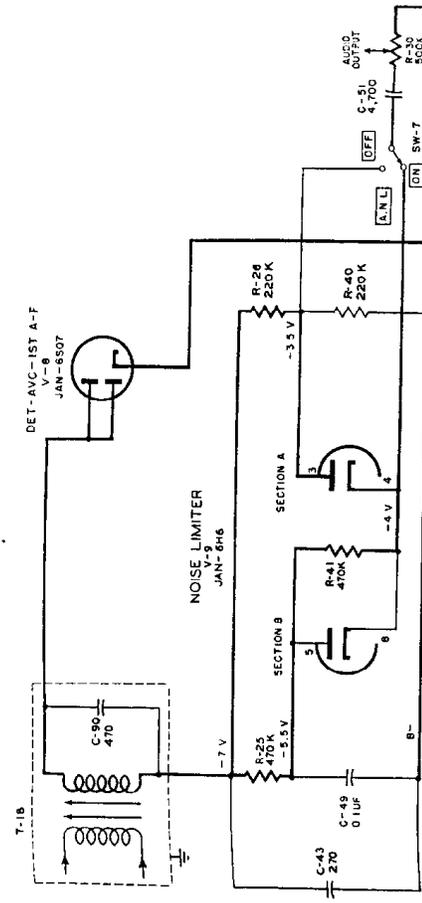

Figure 25. Noise limiter, simplified circuit diagram for preliminary explanation.
56. Noise Limiter (figs. 25 and 26)
a. GENERAL. The noise limiter (V-9) is of the series type and is designed to suppress any pulse type of noise interference which is picked up by the antenna and amplified through the radio receiver up to the detector. A.N.L. OFF-ON switch SW-7, shown in figure 25, switches the noise limiter twin diode either into the circuit or out of the circuit. With this switch in the OFF position, the audio output from the detector stage is taken from the junction of the two detector load resistors, R-26 and R-40, and applied through the audio coupling capacitor C-51 across A. F. GAIN control R-30. The movable contact of R-30 applies the a-f to the grid of the triode audio section of tube V-8. The detector circuit then functions similarly to the detector circuit in a conventional radio receiver, using a normal half-wave diode detector. However, when the noise limiter switch is in the ON
position, the audio signal must travel through section A of tube V-9 (pins 3 and 4) to reach capacitor C-51 and the gain control. This diode acts as an automatic switch; opening on short, strong noise pulses to prevent the noise from reaching the first audio amplifier stage. Resistor R-27 (fig. 40) is the cathode resistor of the triode audio section of tube V-8, and C-44 is the cathode bypass capacitor; these parts are not shown in the simplified circuits of figures 25 and 26 because they are not important to the function of the noise limiter circuit.
(1) Figure 25 shows the noise limiter in operation when there is a normal signal present but no noise. Rectification of the i-f signal in the detector (V-8) causes a direct current to flow through load resistors R-26 and R-40. Note that the series-parallel combination of resistors R-25 and R-41 and diode section A of tube V-9 is in parallel with load resistor R-26. Current flows through resistor R-26 in the proper direction to make the cathode of diode section A more negative than the plate; hence, this diode will conduct and there will be a small current flow through resistor R-25. Since diode section A conducts, the audio signal developed across detector load resistor